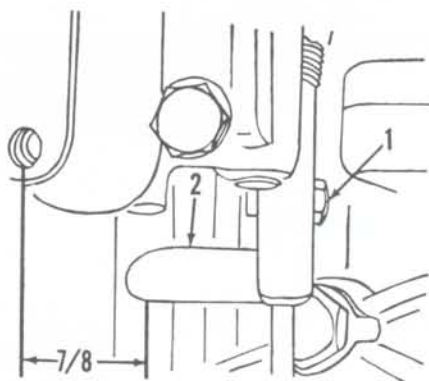

Fig. M7-12—Reverse pickup finger adjustment used on some models. Refer to text.
On Merc 600 and 700, make sure that throttle valves are closed; then loosen clamp screw (1—Fig. M7-12) and position reverse pickup finger (2) so that leading edge is approximately $\frac{7}{8}$ -inch in front of carburetor float bowl as shown. Loosen the screws attaching the reverse pickup stop to the distributor sector gear and adjust the reverse timing until points break at 0.030 (inches) before Top Dead Center of the piston.